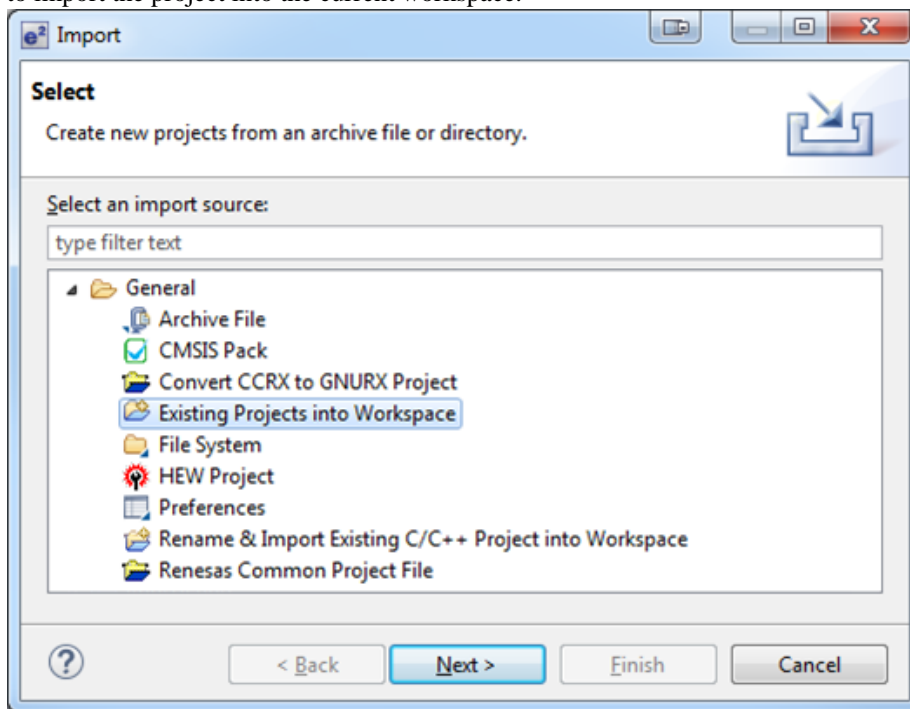

Figure 2.6 Project Import dialog with “Existing Projects into Workspace” option selected
- In the Import dialog box shown in Figure 2.6, select the **General** option, and then select **Existing Projects into Workspace** to import the project into the current workspace.